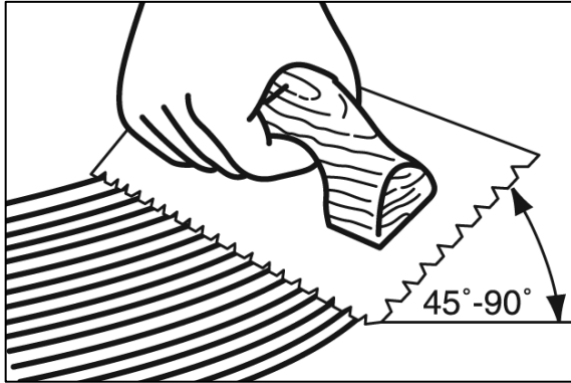

Figure 9
- Hold trowel at a minimum 45° angle (**Figure 9**) firmly against the subfloor to obtain a 40-60 ft.2 (4-5.5 m2) per gallon spread rate. The trowel will leave ridges of adhesive and very little adhesive between the ridges. This method will allow you to see the chalk lines between the ridges still and provide the recommended spread rate.